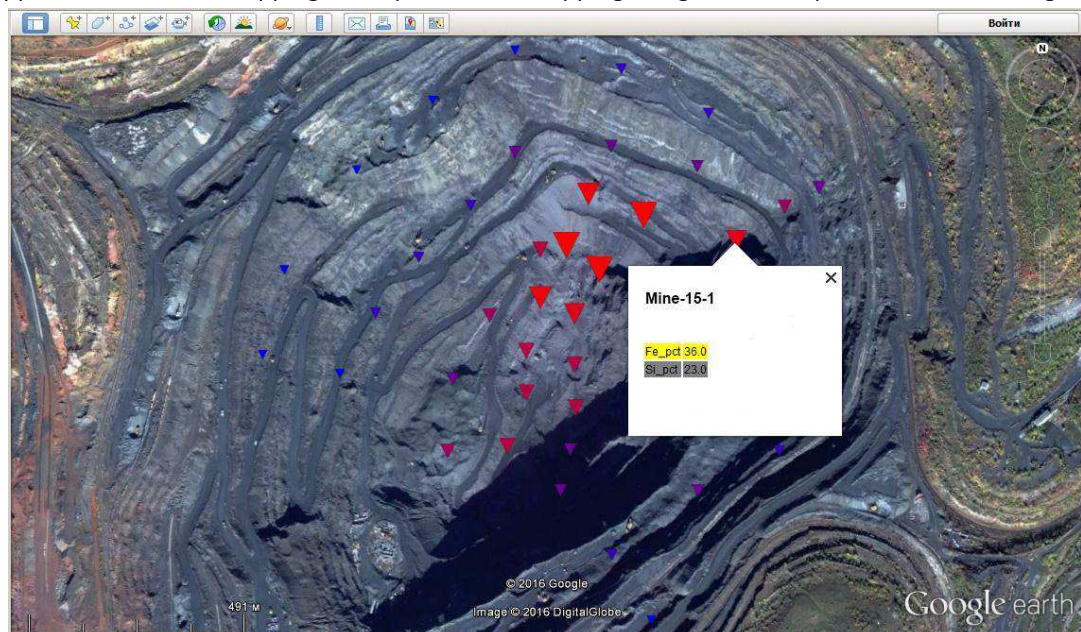

Figure 1. Geochemical mapping of iron ore mine.
- Geochemical mapping. ElvaX ProSpector offers wireless connection to external GPS systems and can store GPS coordinates with each measurement. GPS data can be imported to any GIS application for mine mapping. Example of mine mapping using ElvaX ProSpector is shown in Fig. 1.